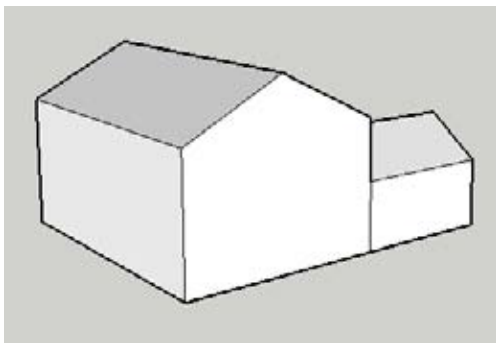

Figure 9-66
1. Download my White House model from the 3D Warehouse. This is a geometrically accurate model of a house. Orbit to the view shown in Figure 9-66.